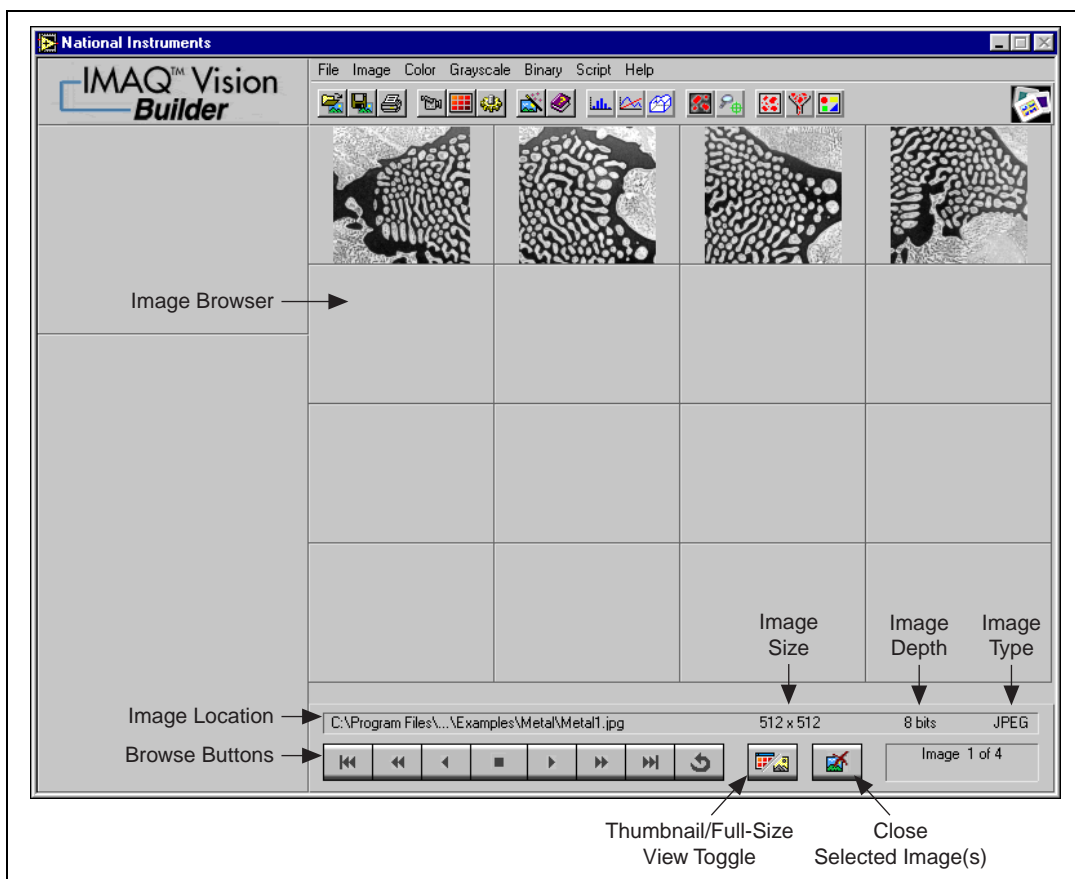

Figure 2-3. Image Browser
- **Image Browser**—Contains all of the images currently loaded in IMAQ Vision Builder. Through the Image Browser, you can select an image that you want to process by double clicking on it. See Figure 2-3 to view images loaded into the Image Browser.
IMAQ Vision Builder loads those image files into the Image Browser, as shown in Figure 2-3. The Image Browser provides information about the selected image, such as image size, location, depth, and type.
You can view new images in either thumbnail view, as shown in Figure 2-3, or in full-size view, which shows a single full-size view of the selected image.